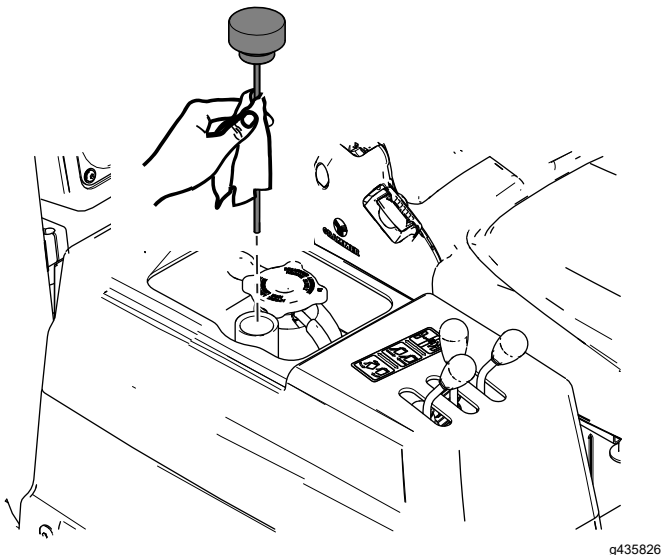

Figure 81
4. Remove the dipstick from hydraulic tank and wipe the dipstick with a clean cloth (Figure 81).